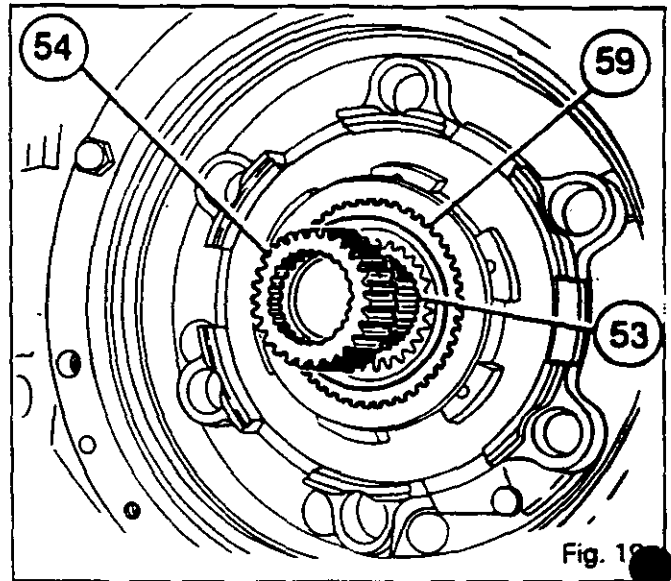

Fig. 19
54. Fit the clutch housing assembly (59) and the washer (51) on the shaft (53). Fit the splined hub (54), with its internal splines pointing upwards (Fig.19).
55. Fit the two other brake discs (41), separated by the pressure plate (44). Position the sun gear (61) together with the ring (49), on the clutch housing (59).